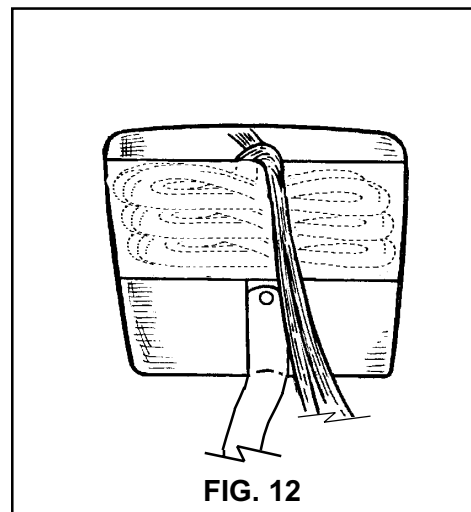

FIG. 12
15. Close the top flap protector by tucking the "tongue" underneath the closed flaps (**FIG. 12**).
12. After the two locking stows are made, stow the remainder of the suspension lines (to within 6" of the connector links) in the line-stow pouch on the back of the bag. This is where it is useful to use the velcro strips mentioned in the list of tools. Cover the hook velcro on the pouch with the strips of loop velcro while stowing the lines in the pouch. Make figure of 8 folds with the lines, the width of the pouch. To close the pouch, remove the strips of loop velcro and mate the velcro at the mouth of the pouch, being sure that none of the suspension lines are captured by the closure (FIG 12).